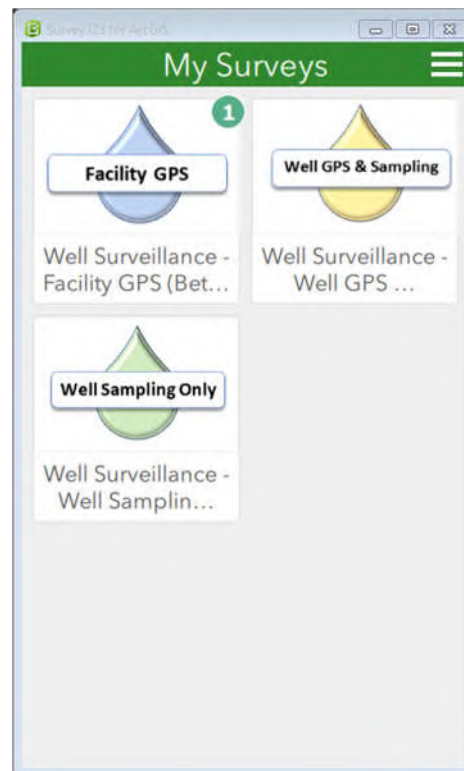

Figure 21- My Surveys Screen showing 1 completed form in the Facility GPS Outbox to be submitted
- Send Later- This allows the collected data to be saved on the device so that it can sent at a later time using the DOH (or other approved) Wi-Fi. The forms with the collected data are stored in the Survey123 Outbox. The icon on the My Surveys screen will show the number of completed forms that are waiting to be submitted (Figure 21).
The form icon on the My Surveys Screen indicates the number of forms that are waiting to be sent in the upper left-hand corner. In Figure 21, for example, there is one Facility GPS form that is complete and ready to be submitted.